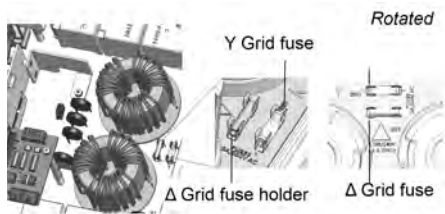

Figure 27: Fuse locations and markings
To set the inverter for 3-wire grid connection, you must move the fuse from the 4-wire fuse holder, marked as Y GRID, to the 3-wire fuse holder, marked as Δ GRID (see *Figure 27*).
1. Identify the fuse locations and the markings as described in *Figure 27*.